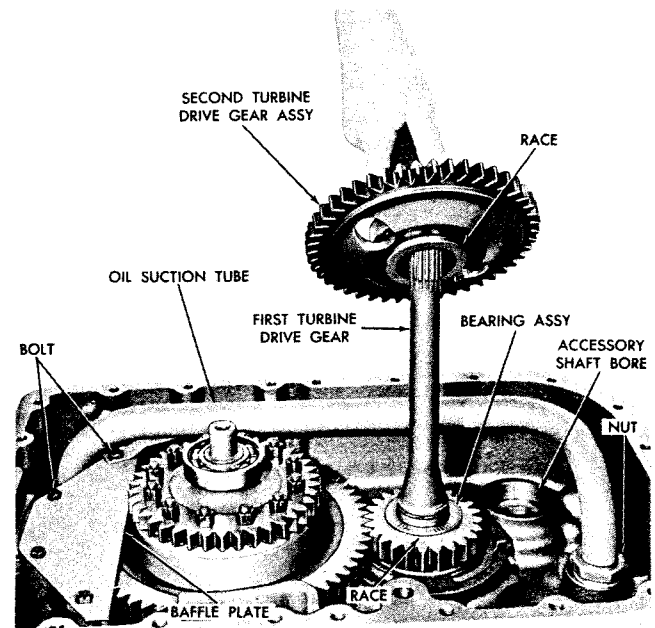

Fig. 7-37. Installing second-turbine driven gear assembly (-3 model)
(6) Install the baffle plate and retain it with three 5/16-18 x 5/8-inch, self-locking bolts. Leave bolt hole for suction tube bracket (fig. 7-37). Tighten the bolts to 17 to 20 pound feet torque.
(7) Install sealring 2 (A, foldout 8), nut 3 and sealring 4 onto oil suction tube 1. Install the tube and assembled parts into the transmission housing and retain it with one 5/16-18 x 5/8-inch self-locking bolt (fig. 7-37), but do not tighten at this time. Tighten the nut to 120 to 150 pound feet torque. Tighten the bolt to 17 to 20 pound feet torque.
(8) Install the thicker thrust bearing race and needle thrust bearing assembly onto the first-turbine drive gear (fig. 7-37).
(9) Install the thinner thrust bearing race, concave side first, onto the second-turbine drive gear (fig. 7-37). Use oil-soluble grease to retain it.
(10) Install the second-turbine drive gear assembly onto the first-turbine drive gear (fig. 7-37). Be sure that the step-joint sealring is in its groove on the first-turbine drive gear.